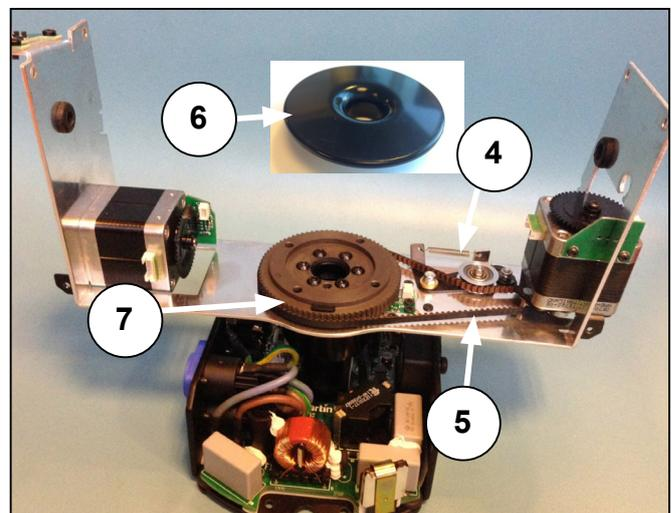

Figure 37: Yoke
14. Turn the yoke as shown in figure 37.
15. Remove the six TX20 screws (8) that hold the timing wheel.